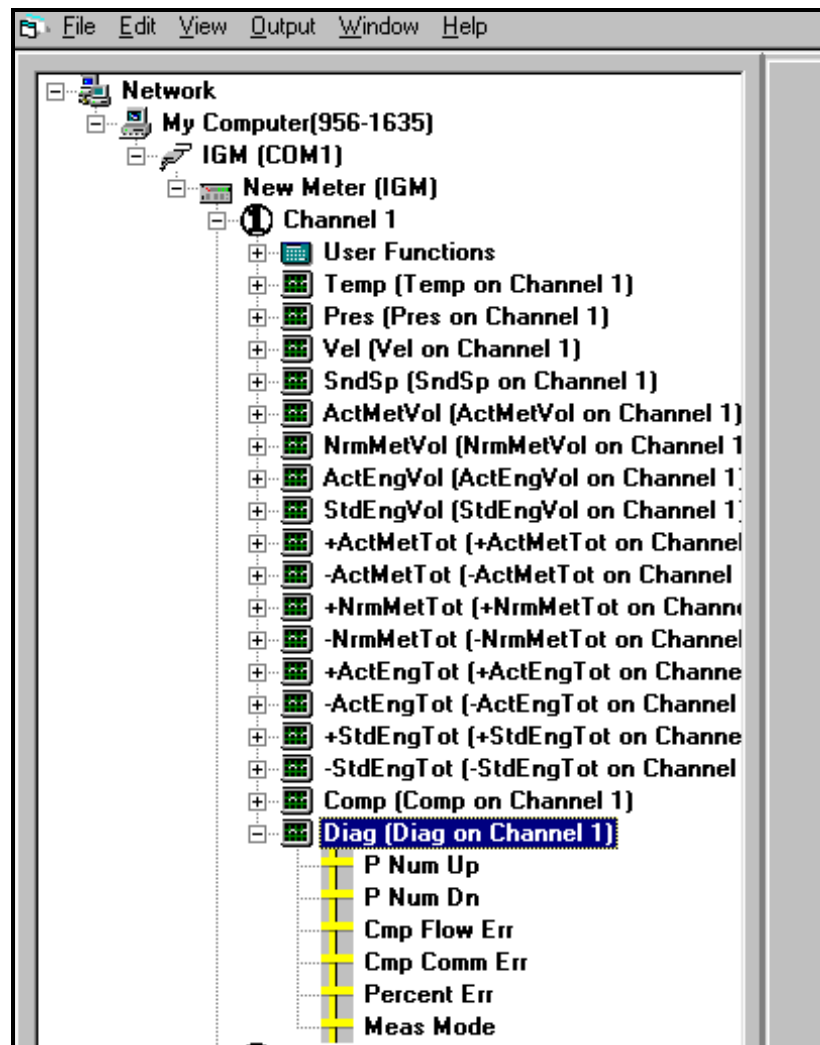

Figure 5-1: PanaView Meter Browser Output Menu
4. Click on the + sign before each level to open it (see Figure 5-1 below and Table 3-1 at the end of Chapter 3 for an explanation of terms).